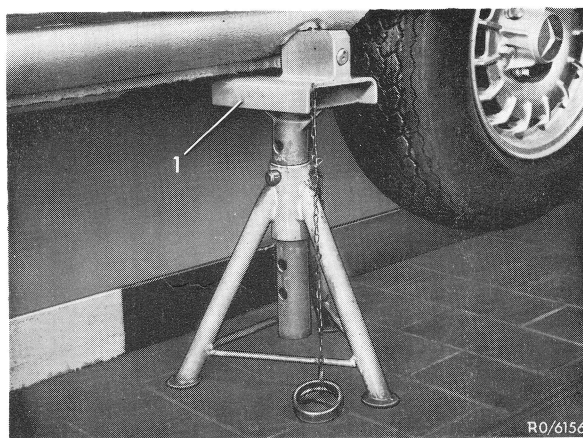

Fig. 6
**Caution!** Supporting shoes are provided with a chain painted brightly red. Any supporting shoe remaining on the vehicle by mistake will be easily spotted. As an additional protection against a supporting shoe remaining on the vehicle it will be of advantage to attach a steel ring (a used roller bearing race, for example) of approx. 60 mm dia. to the chain (Fig. 6), so that the resulting noise will alert the driver immediately.